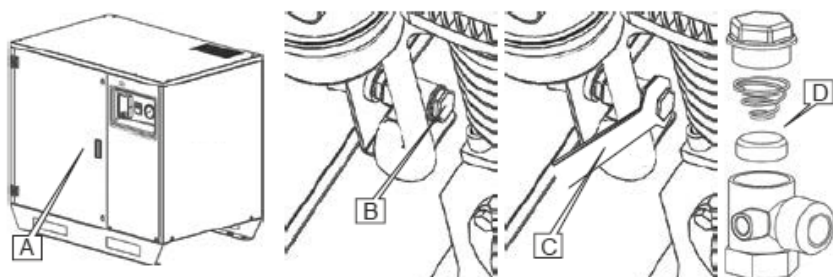

Fig. 12
- 3 Unscrew the cap manually (Pos. B, Fig.12), remove the cartridge, and replace it with a new one.